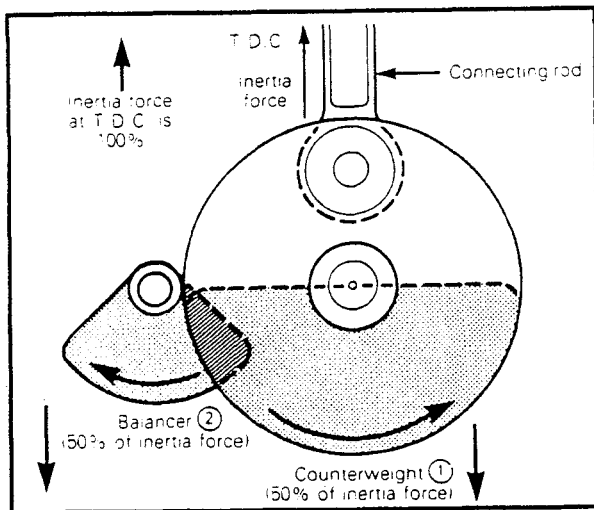

Figure 2-5. Inertia Force Configuration At T.D.C.
1. See Figure 2-5. When the piston is at T.D.C., the inertia force value at the piston is 100%. To counteract this force, the crankshaft counterweights cancel 50% and the balancer cancels almost all the remaining 50%.